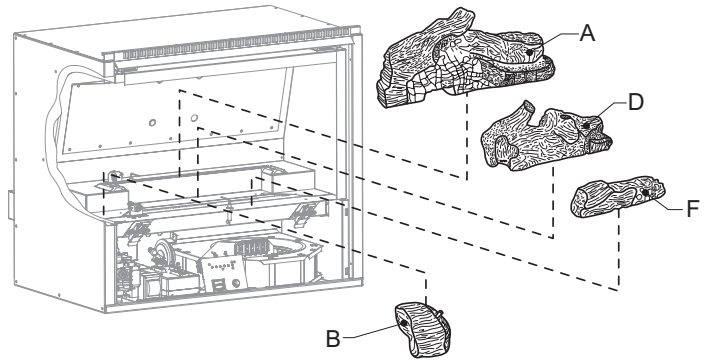

Figure 14A
1. Place Rear Log (A) onto rear log support. The notch in the Rear Log fits over the rear Hot Surface Ignitor.
2. Place Left Log (B) on left rear log support shelf. The charred portion of the log must face inward.
3. Place Middle Log (D) on front log support between the front and back burners.
4. Place Front Right Log (F) on right side of Firebox bottom. Notch in bottom of Front Right Log fits over the front Flame sensor. See Figure 14A.